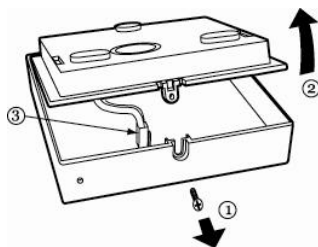

Fig. 1: Opening the housing
2. Attach the front part of the housing to the rear wall and fasten it with the screw (carry out the steps in figure 1 in reverse order).